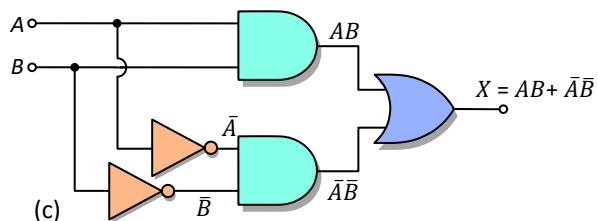

Fig.11-8: XNOR gate: (a) Symbol, (b) truth table, and (c) equivalent circuit of an XNOR gate
**XNOR (Exclusive-NOR) gate** acts just in the opposite way of XOR gate. Actually this gate is the combination of XOR gate and a NOT gate at the output. The symbol and its truth table are given in Fig.11-8. The output is '0' if either, but not both, of the inputs are '1'. The output is '1' if both inputs are same either '0' or '1'. The XNOR operation is denoted by  $\oplus$  (XOR operation with an over-bar) symbol. So the output of a two-input XNOR gate is represented as  $X = \overline{A \oplus B}$ . Like the XOR gate, the XNOR gate can be constructed using fundamental gates as shown in Fig.11-8.